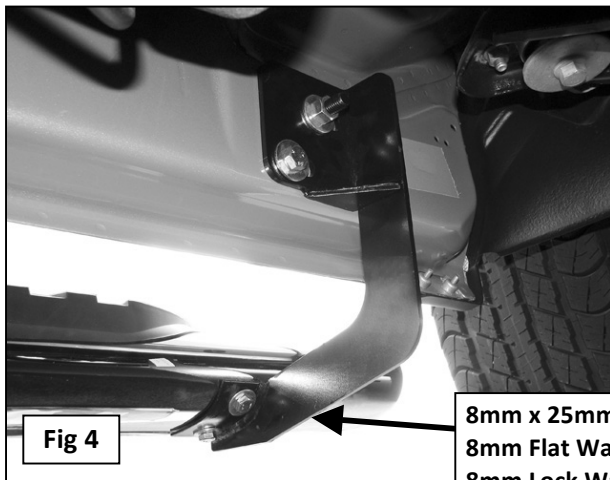

Fig 4
- Once all of the driver side Brackets have been installed, carefully position the driver Sidebar onto the (3) Mounting Brackets. Attach the Sidebar to the cradles on the Mounting Brackets with the included (6) 8mm x
25mm Hex Bolts, (6) 8mm Lock Washers, and (6) 8mm Flat Washers, (**Figure 4**). Do not tighten hardware at this time. **IMPORTANT:** If you are having any difficulty with installation, check Mounting Bracket location first. Use the illustration on **Page 1** to identify the Mounting Brackets.